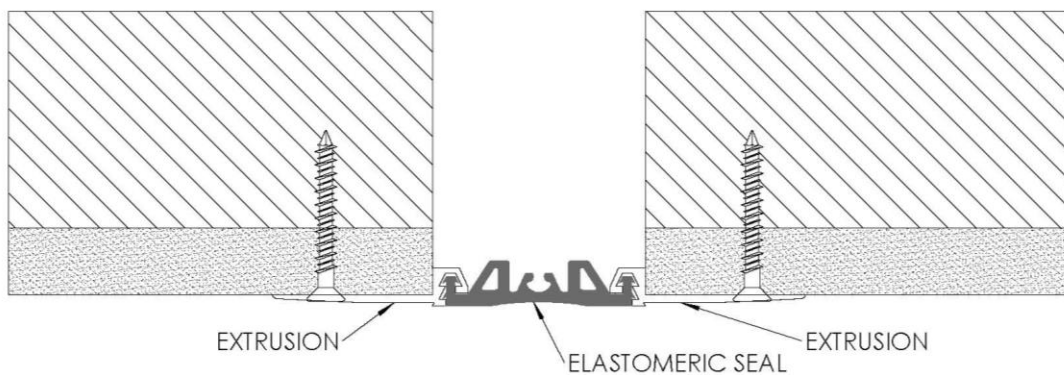

FIGURE 2
2. Position the elastomeric seal into position and push the seals bulbs into the extrusion channels as shown. Make sure the bulbs are seated all the way into the channel (stagger seams, as necessary). **See Figure 2**